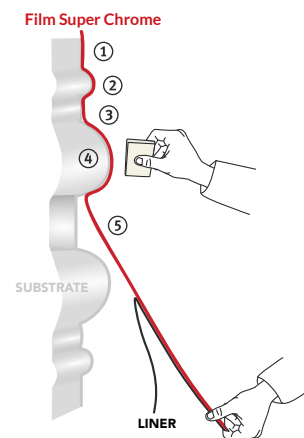

Figure 10
- › Gradually remove the liner while pulling it downwards (FIG. 10)
- › Start applying the hollow part ①, then the raised part ②, and then the hollow part ③.
- › Go onto the following undulation ④, then keep going ⑤ until completion of the application.